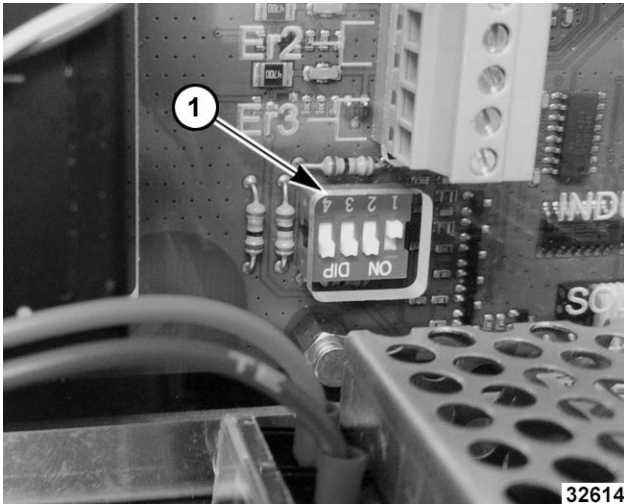

Fig. 120
- A. Check the position of output control assembly microswitches (1, Fig. 120). Make sure 1 is OFF and 2, 3, and 4 are ON.